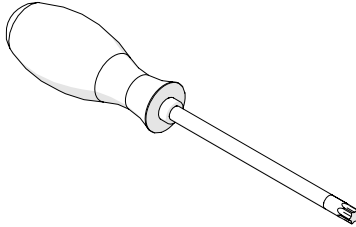

Fig. 42 - Torx driver: T45
- ▶ Torx driver: T45 (Fig. 42)